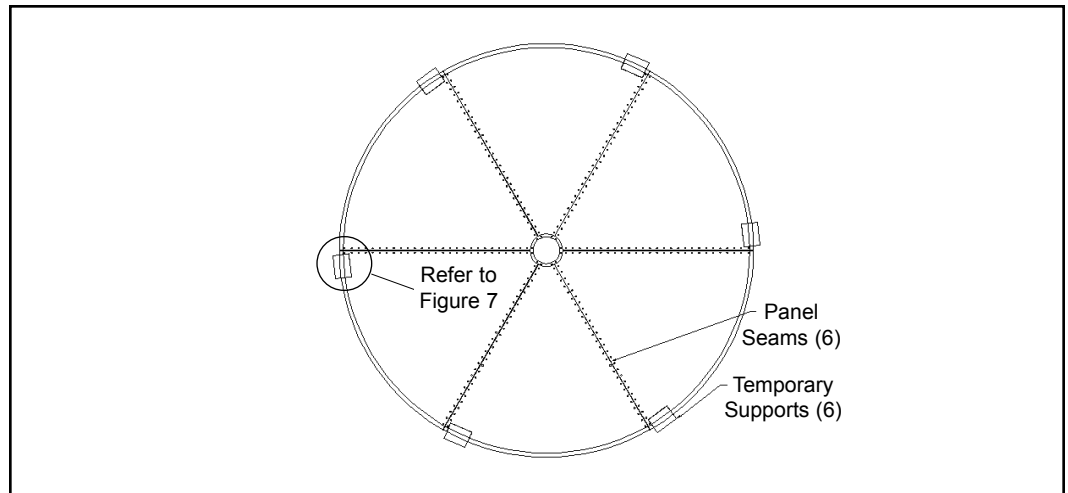

Figure 38
Position (6) temporary supports near panel seams exactly as shown in Figure 38. **Note:** Temporary supports should be large enough to adequately support the reflector and strong enough to easily support reflector weight without compressing.